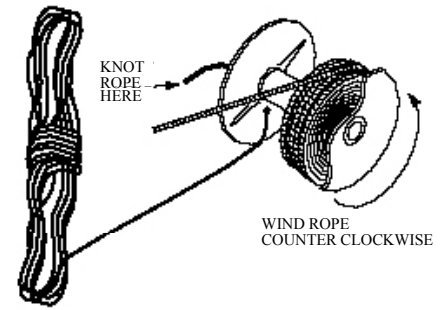

Figure 3. Rope Installation
4. Keep tension on the rope and feed the rope on the drum by running the anchor winch with the switch in the up position. Correct rotation is essential for proper operation. Make sure the rope rotation corresponds to Figure 3. The rope must feed from the top of the drum.
To install rope on the drum, refer to Figure 3 and follow the outlined procedures.